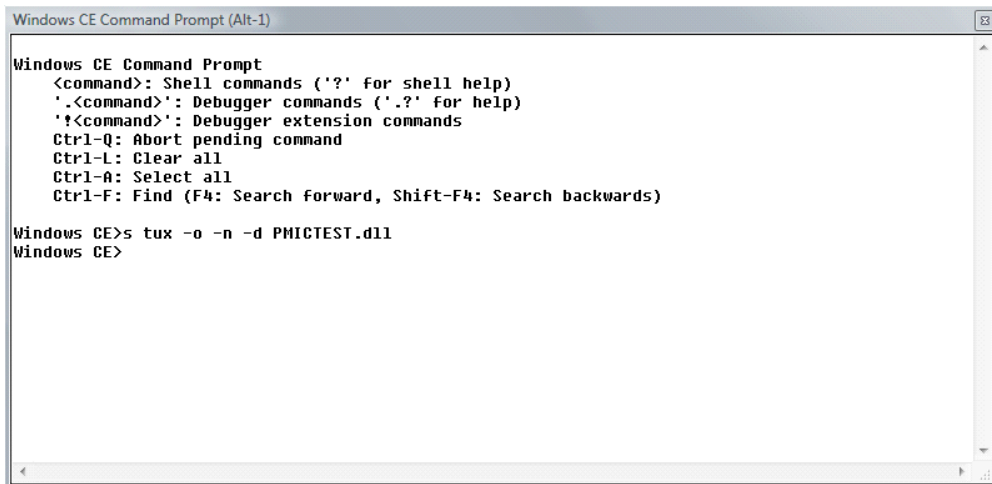

Figure 3. Running the Command `s tux -o -n -d pmictest.dll`
2. Run this command `s tux -o -n -d pmictest.dll` on the command prompt window, as shown in Figure 3.
Figure 3 shows the running of the command `s tux -o -n -d pmictest.dll` in the command prompt window.